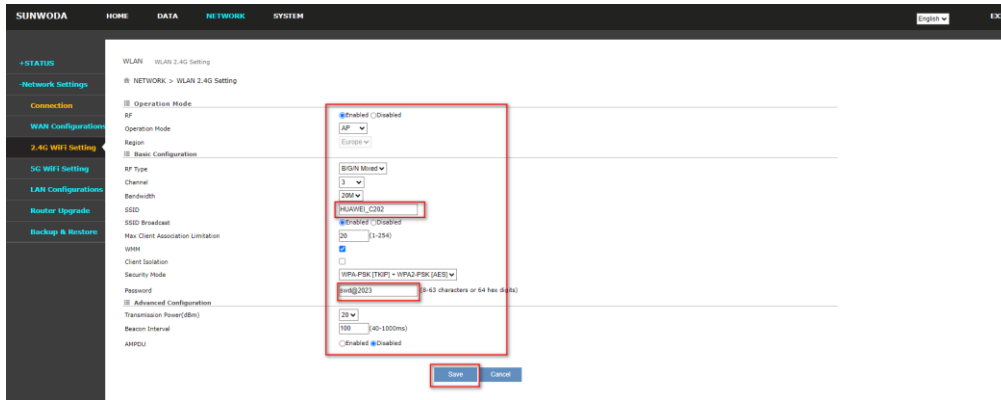

Figure. 4.11
(5) Set up WiFi for the master cabinet on the following page (Fig.4.11) .